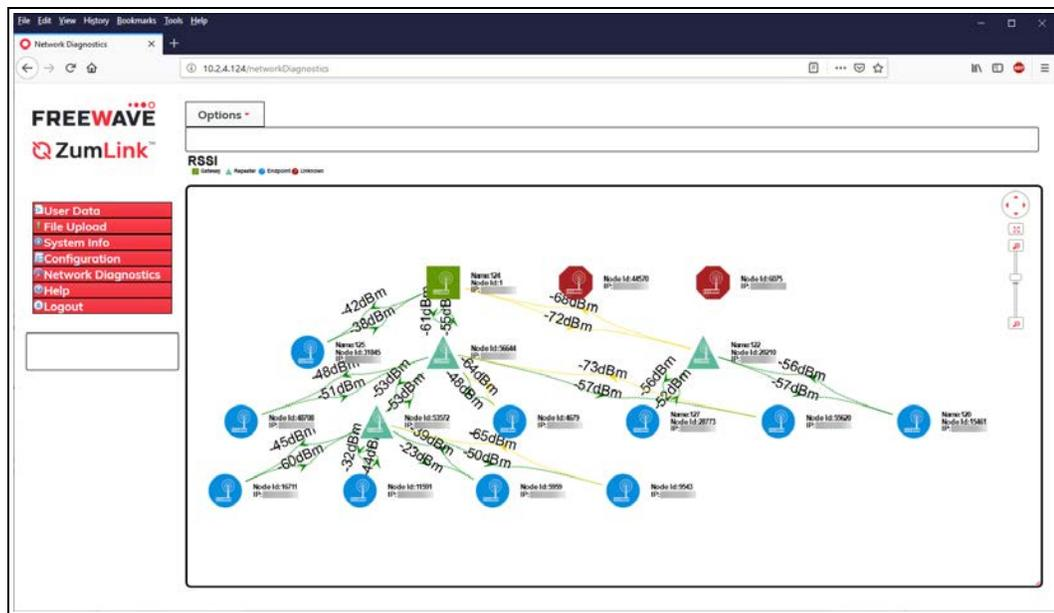

Figure 207: Network Diagnostics window - RSSI
- Click the **Options** list box arrow and select the **RSSI** option to show the **RSSI** connections in the **Network Diagram**. Figure 207